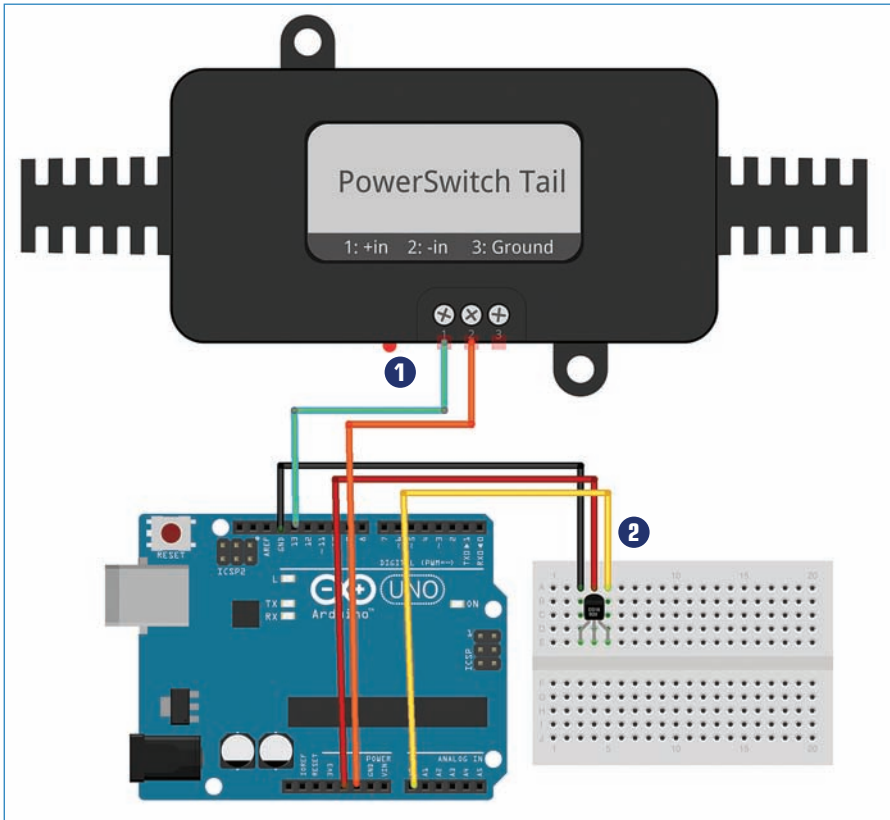

FIGURE 12.8 The fan controller is a quick and easy build.
This is a quick-and-dirty build, with only five wires and a single electronic component, shown in Figure 12.8.
- 1 Connect the first and second terminals of the PowerSwitch Tail to pin 13 and a GND on the Arduino. In Figure 12.8, these are shown as being green and orange wires, respectively.